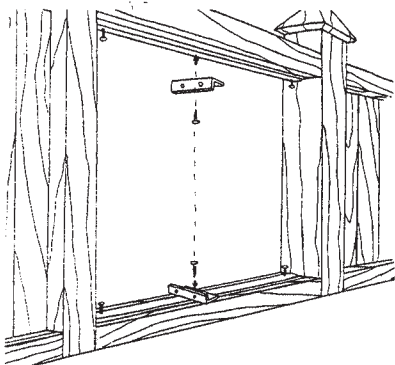

Figure 4
STEP 3 Once the rails have been positioned, mount a bracket onto one of the middle pre-punched swivel holes on each rail by using the rail screws supplied (#10, 1 1/2). (*Figure 4*). Drive the screw perpendicular through the bracket hole and matching rail swivel hole, in order to hold the bracket and rail in place. **IMPORTANT:** REVERSE SCREW BY 1/4 OF TURN, JUST ENOUGH TO ALLOW THE BRACKETS TO TURN EASILY (SWIVEL).